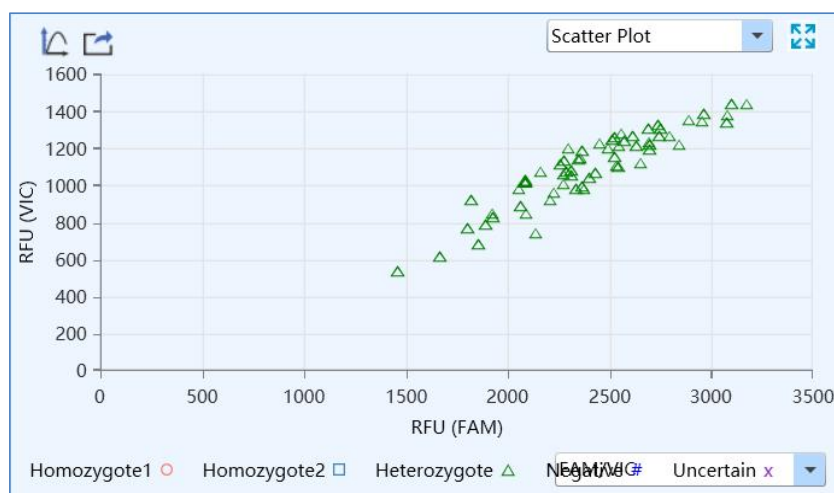

Figure D-16.1. Genotyping Analysis Interface - Scatter Plot Functional Module
I. **Scatter Plot**: display the end point fluorescence distribution of two dyes, as shown in figure D-16.1.